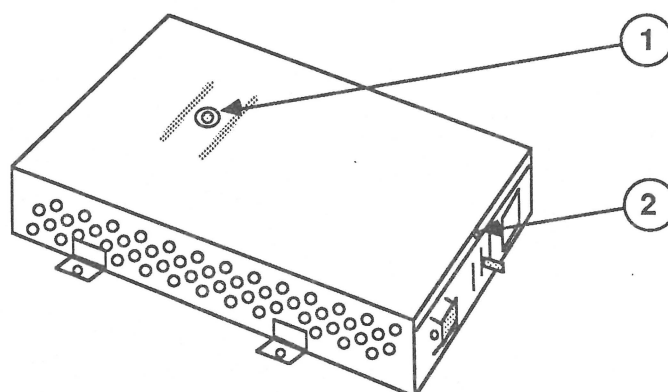

FIGURE 24
3. Replace the top screw and washer (Figure 24, #1) and the end screw (Figure 24, #2) that secure the metal cover to the power supply.